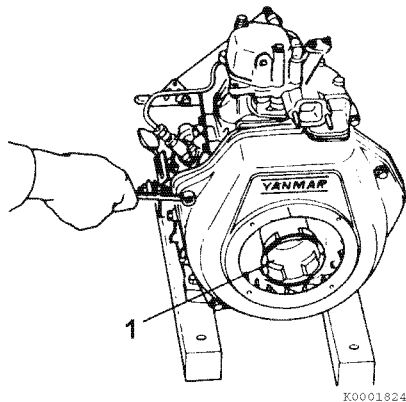

Figure 9-13
3. Remove the cooling fan housing (**Figure 9-13**).
4. Remove the starter pulley (1, **Figure 9-13**).